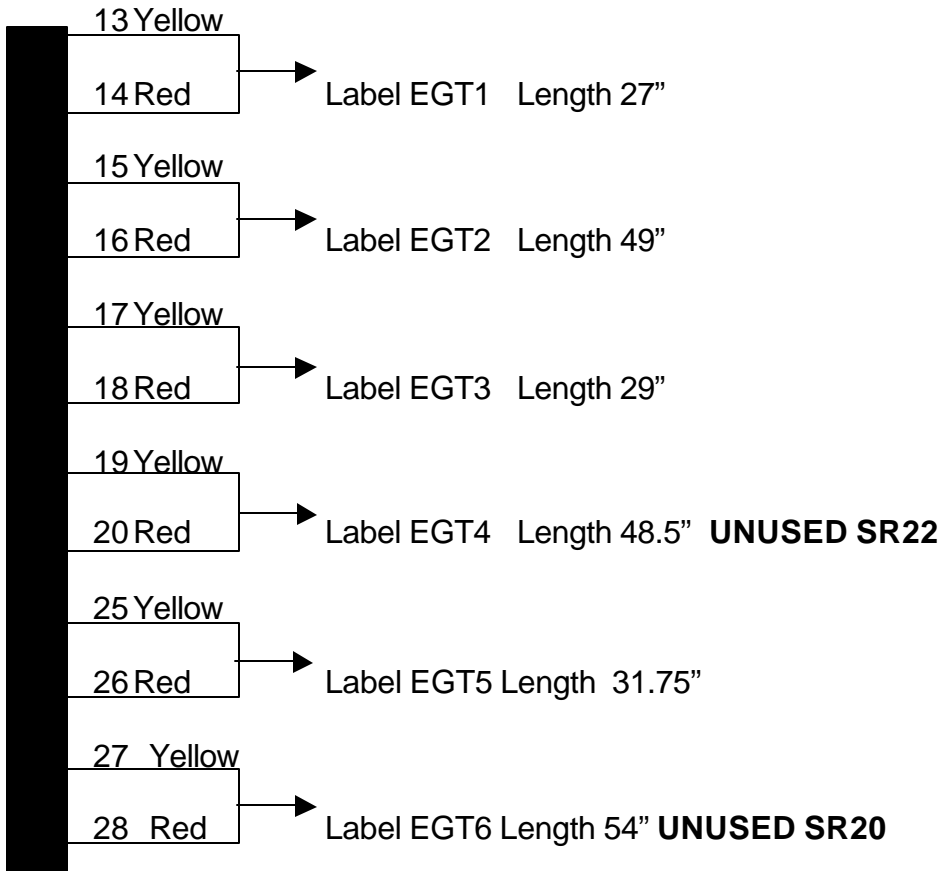
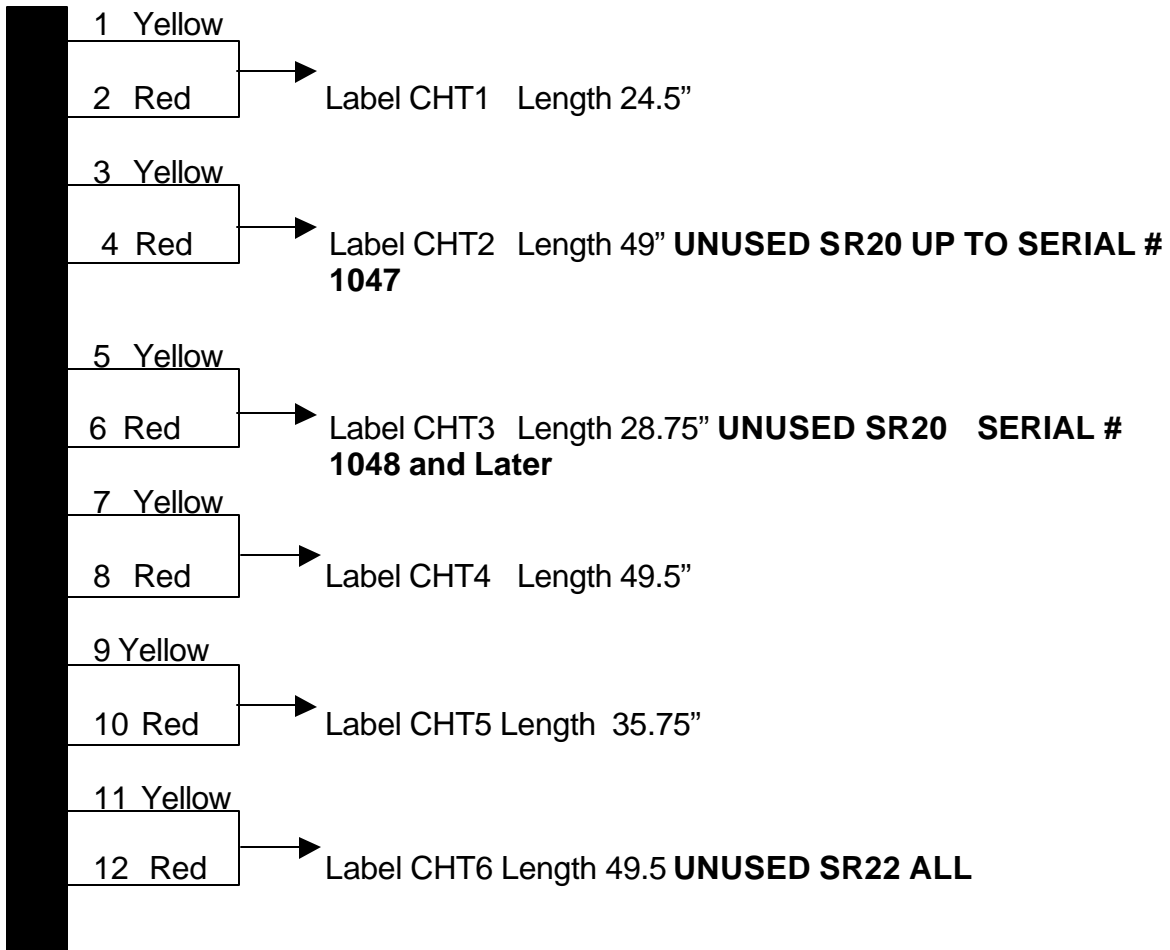

Figure 15-1
Figure 15-2
1. Lay out the 611-0602 harness (Refer to **Figure 15-1** and **Figure 15-2**). Separate the wire pairs into left side and right side groupings by bunching pairs labeled CHT or EGT cylinders 2,4, and 6 for left side and cylinders 1,3, and 5 for right side.